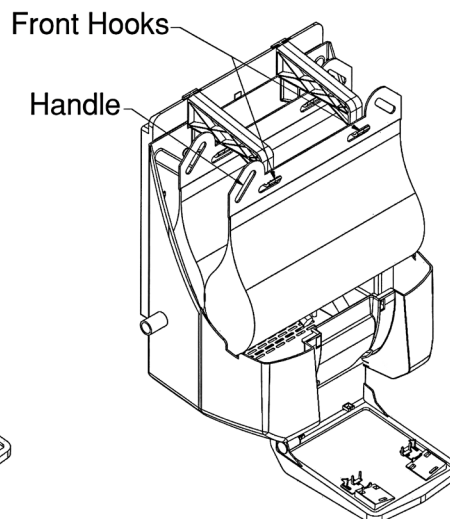

FIGURE 7
- B. Lift second Cartridge by handles provided and place on front hooks of hanger bracket (**Ref Figure 7**).